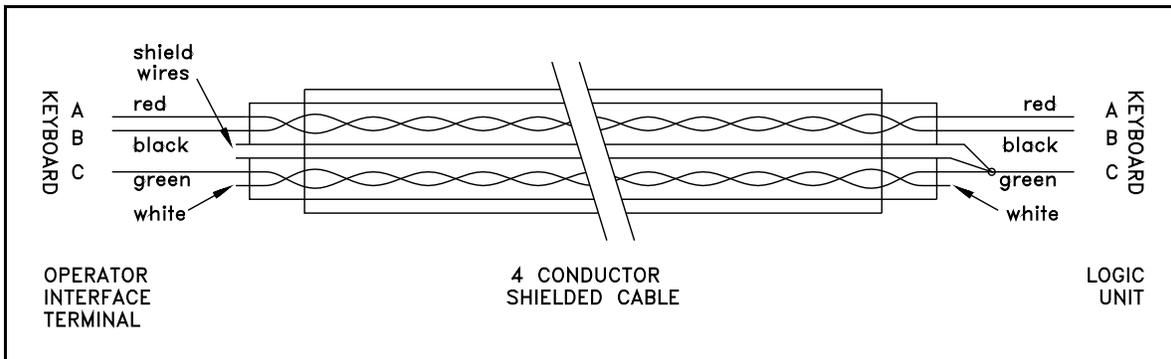

Figure 23. Connection of the OIT to the Logic Unit.
- 3) Adjust the zeroing cam switch as shown in Figure 23. The cam switch must be set to open before the machine tooling exerts force on the downstroke, and close after all tooling and stripper forces are relieved on the upstroke.